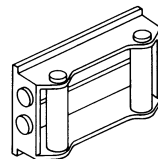

Figure 19
6. **EQUIPPING THE WINCH WITH A ROLLER FAIRLEAD** will substantially reduce wear on the wire rope during angle pulls (Figure 19). The rollers eliminate heavy rubbing and abrasion to the wire rope.